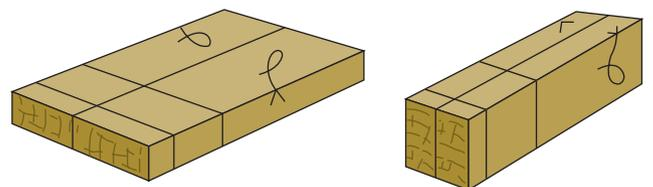

Figure 5.17 Members of frame arranged in pairs for setting out
- parts can be arranged in pairs when necessary (Figure 5.17)